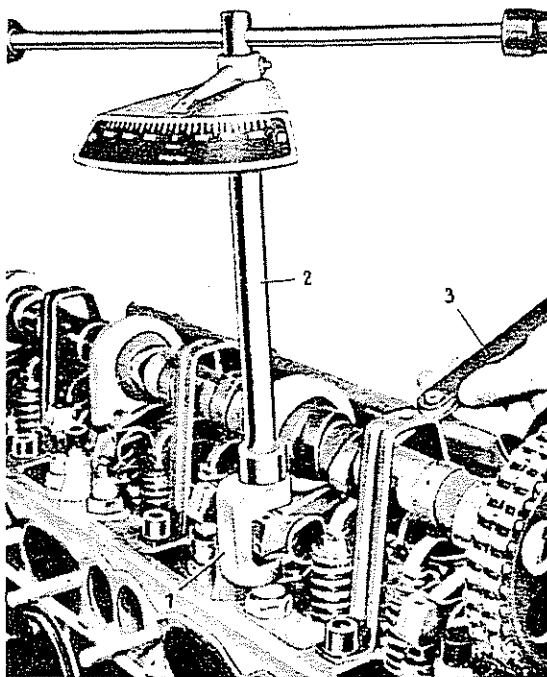

Fig. 01-3/1
If models 180 c and 190 SL with the new valve timing require a correction of their tappet clearance, adjustments are made by turning the upper portion of the ball pin at the hexagon portion (SW 14) with the adaptor 111 589 00 01 (1) and a torque wrench (0-6 mkg) (2) Fig. 01-3/1). Too small a tappet clearance is increased by screwing ball pin top down, too large a tappet clearance is decreased by screwing the ball pin top out. When turning the ball pin top (3) in its socket (1) the adjusting torque should be at least 1.5 mkg (Fig. 01-4/20a). If the adjusting torque is less, either the ball pin top (3) or the ball pin socket (1) or both parts should be replaced. If the tappet clearance is too small and the ball pin top cannot be further adjusted (turned down) by means of the hexagon SW 14 into the ball pin socket, a thinner thrust piece (7) may be inserted into valve spring retainer (9) (Fig. 01-4/20a). Normally, the thrust plates are 4.5 mm thick, they are also available 3.5 mm and 2.5 mm thick. Replacement of a thrust plate requires disassembly of the rocker arm (refer to Job. No. 05-1).